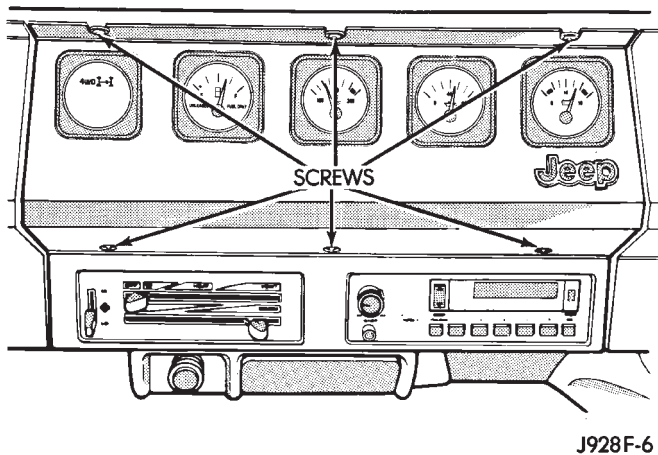

Fig. 17 Center Cluster Bezel Remove/Install - YJ
(1) Disconnect battery negative cable.
(2) Remove center cluster bezel attaching screws (Fig. 17).